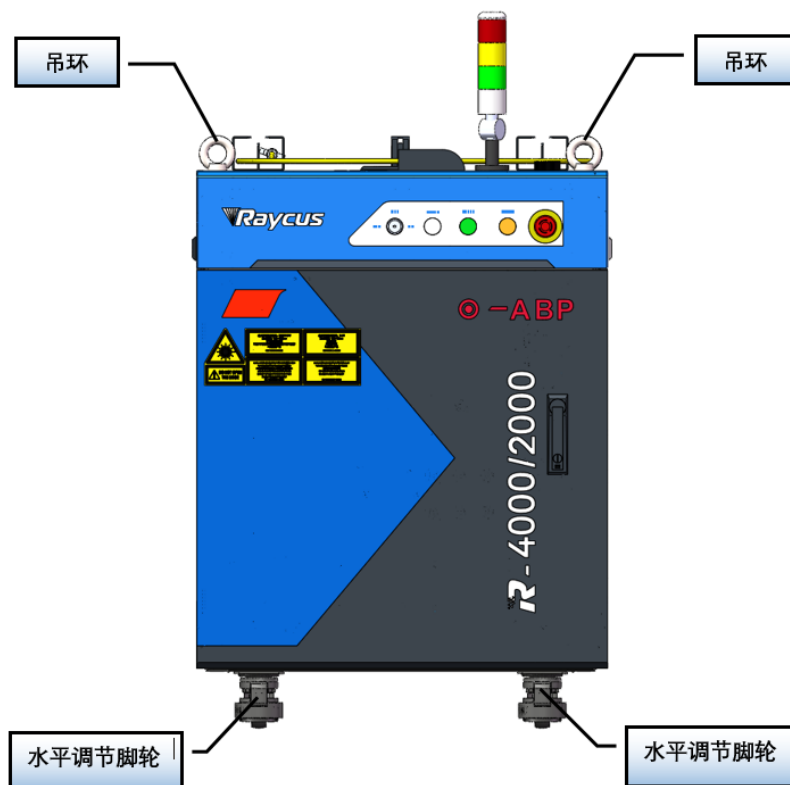

Figure 4 Laser top lifting ring and bottom level adjustment caster.
- i) By using the four hoisting rings on the top of the laser or the four castors at the bottom of the laser, customers can lift or push the laser. Before lifting the laser, please see that the four hoisting rings are firmly and reliably installed. When lifting the laser, please see that all the four hoisting rings are used. Before pushing the laser, please see that the supporting shoes of the castors have left the ground. After the laser is positioned, the supporting shoes need to be adjusted to touch the ground, so as to avoid movement of the laser. As shown in Figure 4.